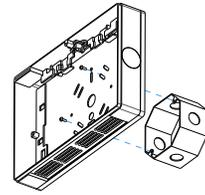

Figure 3
- a. Knock out the proper hole pattern in the back plate to mount to a standard junction box (see fig. 3).